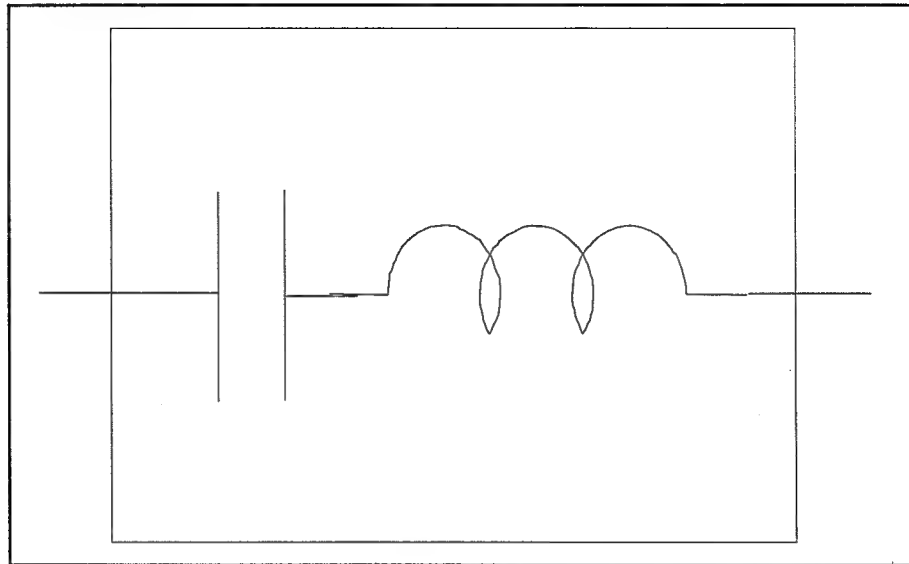

Figure 10 - Tuning unit F1
1) **Tuning unit F1 (V1 or V2)** (fig.10)